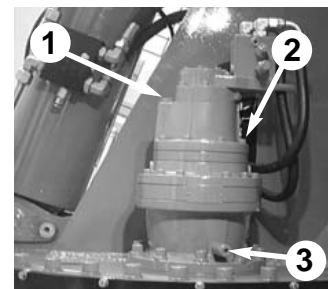

fig. 55
**Check the rotation control motoreducer oil level (fig. 55)**
- Remove the bleed plug (1) using a 22 mm Allen wrench
- Remove the plug (2) using an 8 mm Allen wrench and the O-ring.
- The correct level is reached when oil starts to escape from the threaded hole in plug (2).
- The lubrication oil can be drained completely by removing plug (3) using an 8 mm Allen wrench.